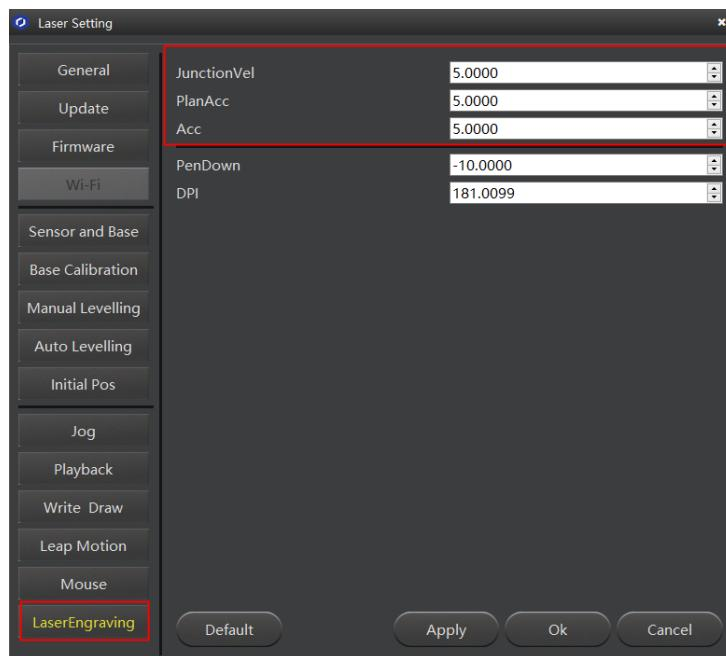

Figure 5.98 Set the parameters of laser engraving
2. Set the **JunctionVel** (junction velocity), **PlanAcc** (linear acceleration), and **Acc (acceleration)**, for example, set all to 5, as shown in Figure 5.98.